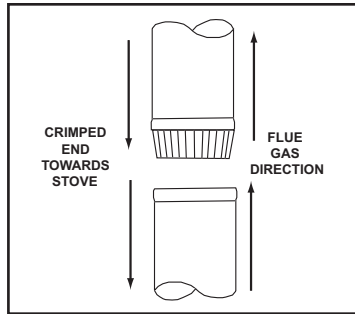

Figure 10A - Chimney Connector
1. Single wall connector or stovepipe. This must be at least 24 gauge mild steel or 26 gauge blue steel. The sections must be attached to the stove and to each other with the crimped (male) end pointing toward the stove. **See Figure 10A.** All joints, including the connection at the stove collar, should be secured with three sheet metal screws. Make sure to follow the minimum clearances to combustibles as set out on **pages 6 and 7** of this manual. Where passage through the wall, or partition of combustible construction is desired, the installation shall conform to CAN/CSA-B365.